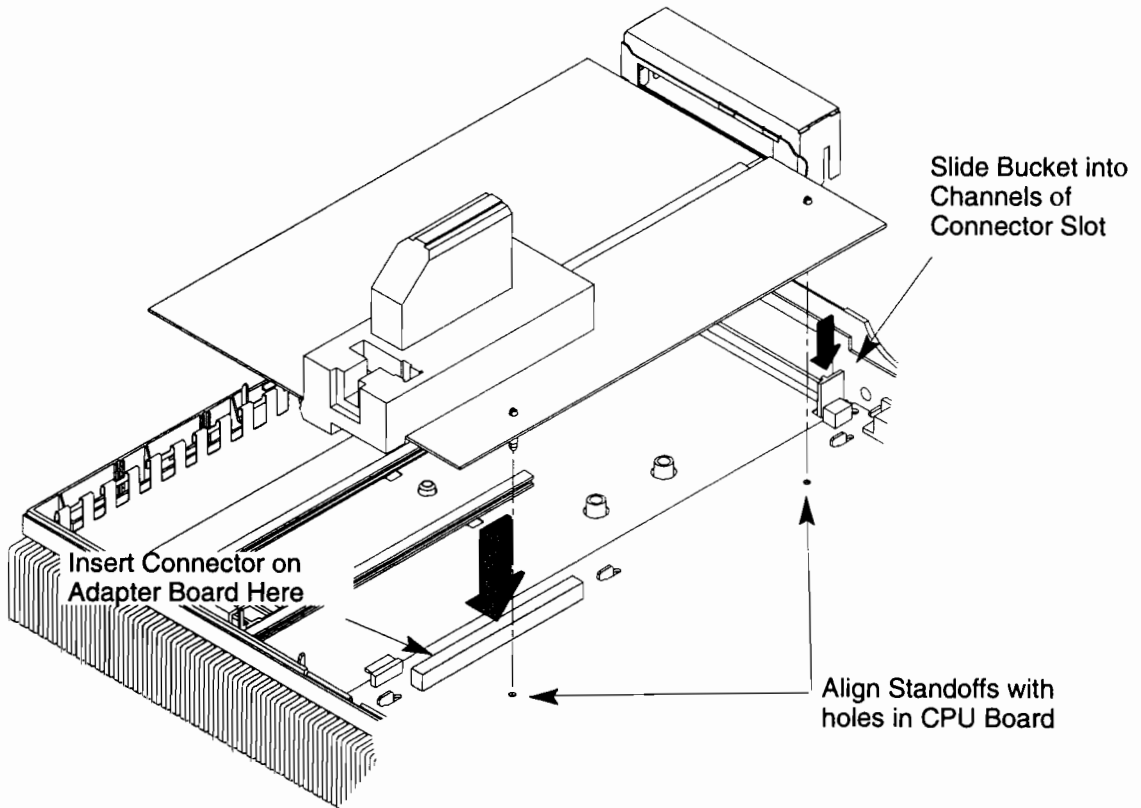

Figure B-16. Inserting the EISA Assembly into the System Unit
7. Slide the connector bucket, which you attached to the EISA board, *partway* into the channels of the connector slot on the rear of the system unit (see Figure B-16). Align the connector on the adapter board with the connector on the processor board, and carefully press the two connectors together. Ensure that the standoffs are aligned with the holes in the CPU board. Press on both the connector bucket and the adapter board to secure the assembly to the system unit.